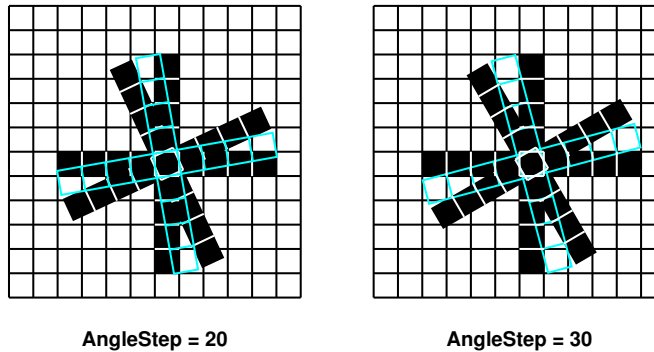

Figure 13: The effect of a large `AngleStep` on the matching.
- As described in section 2.2.3 on page 16, HALCON precomputes the model for intermediate angles within the allowed range of orientation. During the search, a candidate match is then compared to all precomputed model instances. If you select a value for the parameter `AngleStep` that is significantly larger than the automatically selected minimum value, the effect depicted in figure 13 can occur: If the object lies between two precomputed angles, points lying far from the center are not matched to a model point, and therefore the score decreases.